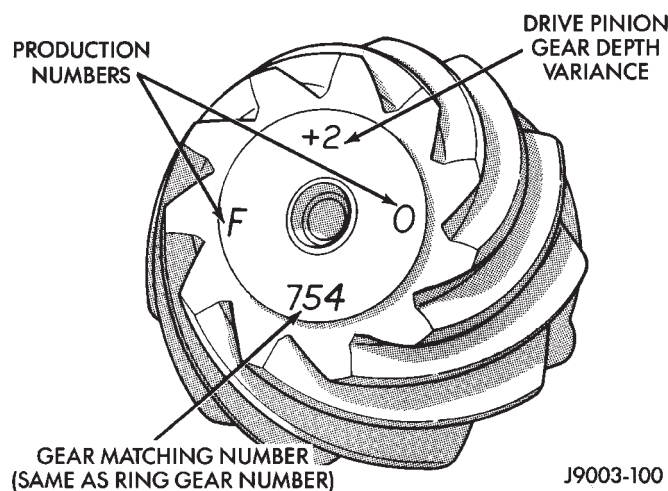

Fig. 44 Pinion Gear ID Numbers
Ring and pinion gears are supplied as matched sets only. The identifying numbers for the ring and pinion gear are etched into the face of each gear (Fig. 44). A plus (+) number, minus (–) number or zero (0) is etched into the face of the pinion gear. This number is the amount (in thousandths of an inch) the depth varies from the standard depth setting of a pinion etched with a (0). The standard setting from the center line of the ring gear to the back face of the
(9) Select a shim equal to the dial indicator reading plus the drive pinion gear depth variance number etched in the face of the pinion gear (Fig. 44). For example, if the depth variance is -2, add +0.002 in. to the dial indicator reading.